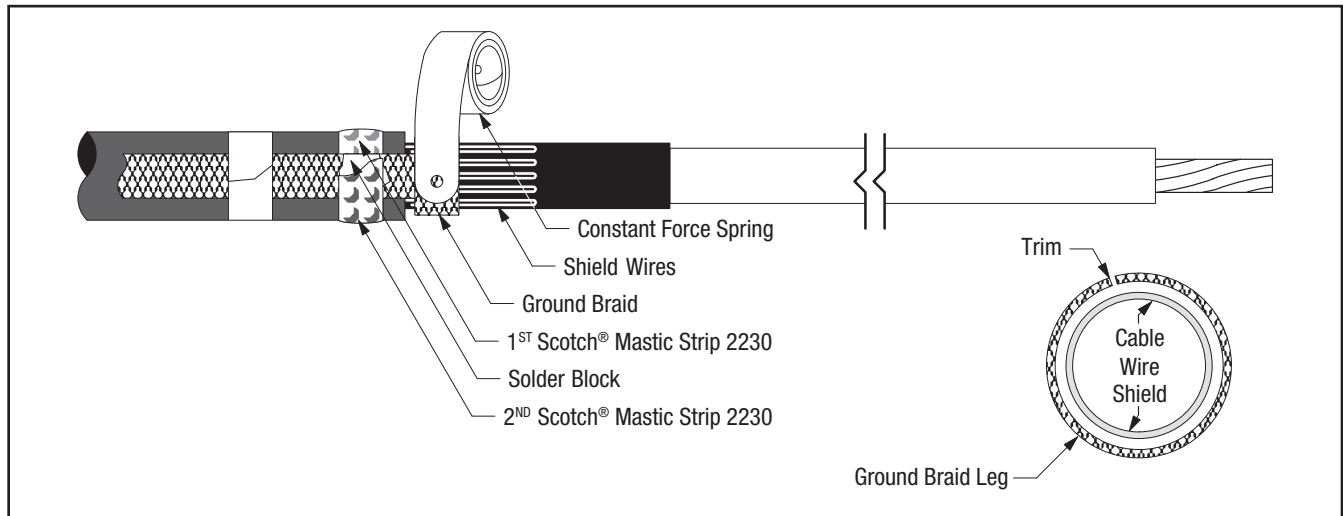

Figure 12
- 8.3 Wrap ground braid around cable shield wires one complete wrap, trim excess to prevent overlap and secure in place with constant force spring. Wrap spring in same direction as ground braid (Figure 12). Cinch (tighten) the spring after wrapping the final winding.
- 8.4 Select second Scotch® Mastic Strip 2230 from kit and remove white release liners. Apply a second single wrap of mastic over solder block on ground braid and previously applied mastic (Figure 12). Cut off excess.